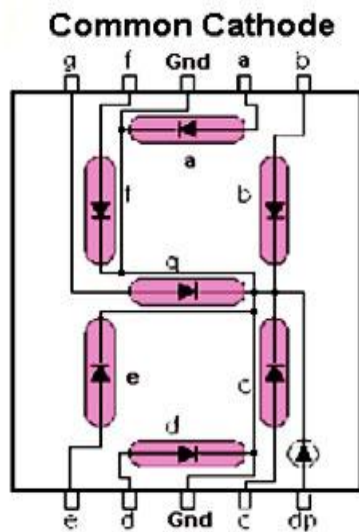
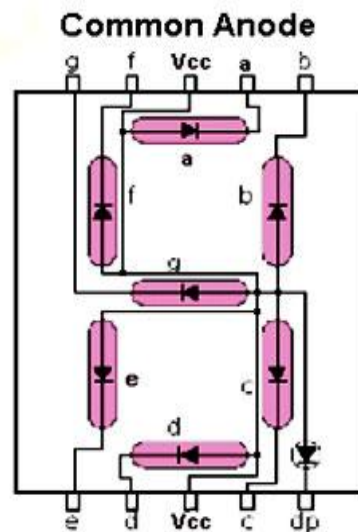

Figure. 1
Figure. 2
- Seven segment displays contain arrangement of eight LEDs and dot (.). It is available in two different type common cathode and common anode. In common cathode all cathode of LED are connected together and connected to ground. Fig. 1. In common anode all anode terminals of LED are connected to +ve terminal. Fig 2. It is used to display numerical value on seven segments by providing appropriate hex numbers.